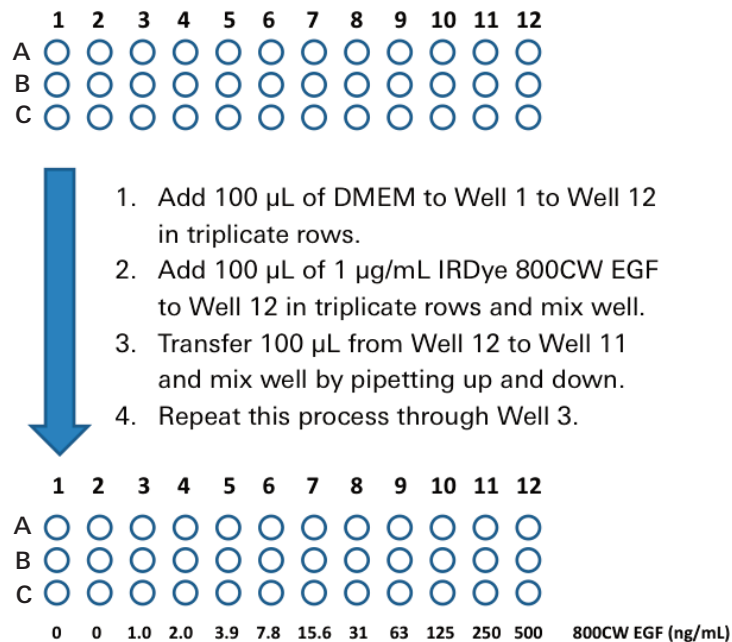

Figure 1. Dilution series for Binding Assay.
13. Prepare a dilution series of reagents for the binding and competition assays in a separate 96-well deep well plate as described in Figures 1 and 2.
Binding Assay: Prepare 2-fold serial dilutions of IRDye® 800CW EGF ranging from 1.0 ng/mL to 500 ng/mL according to the experiment layout shown in Figure 1.